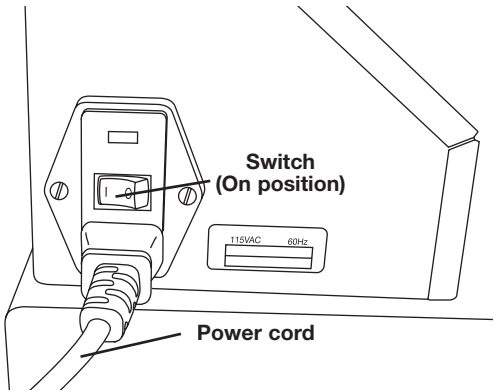

Fig. 2
- 3. Insert the **power cord** into the side of the system. See Fig. 2.